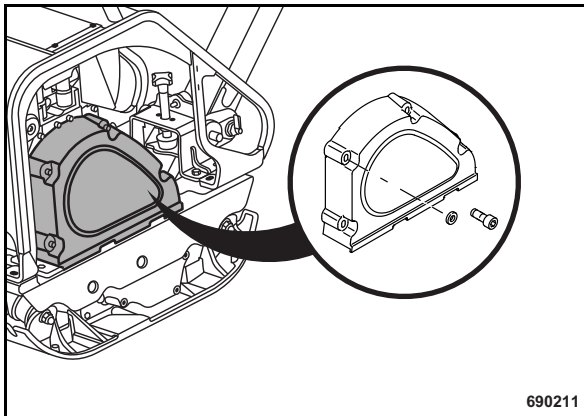
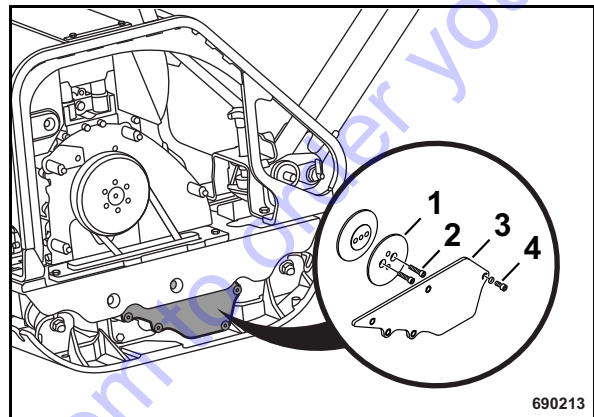

Fig. 57
Fig. 59
- Remove the V-belt guard (Fig. 57).
- Remove the safety cover (3) (Fig. 59).
- Loosen screw (2).
- Remove the front disc (1) from the centrifugal clutch.
- Attach the front disc (1).
- Tighten the screws (2) (tightening torque: 35 Nm (26 ft.lbs)).
- Reinstall the protective cover (3) and tighten the screws (4) (tightening torque 15 Nm (11 ft.lbs)).
- Install the top V-belt guard (Fig. 57).